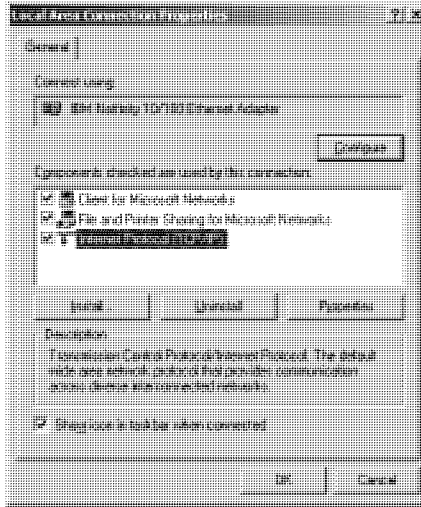

Figure 4: Local Area Connection Properties Window
4. Select **Internet Protocol (TCP/IP)** and click the **Properties** Button (see Figure 4).